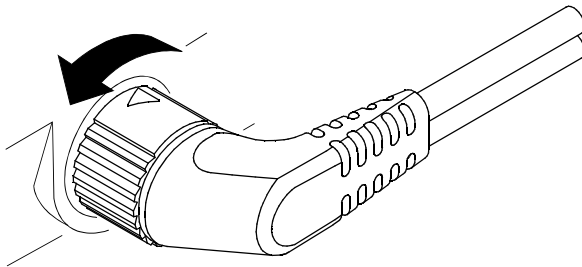

Figure 2-8 Disconnecting the Therapy Cable
- 1 Rotate the locking ring on the therapy cable in the direction of the arrow (counterclockwise) until it stops (see Figure 2-8).